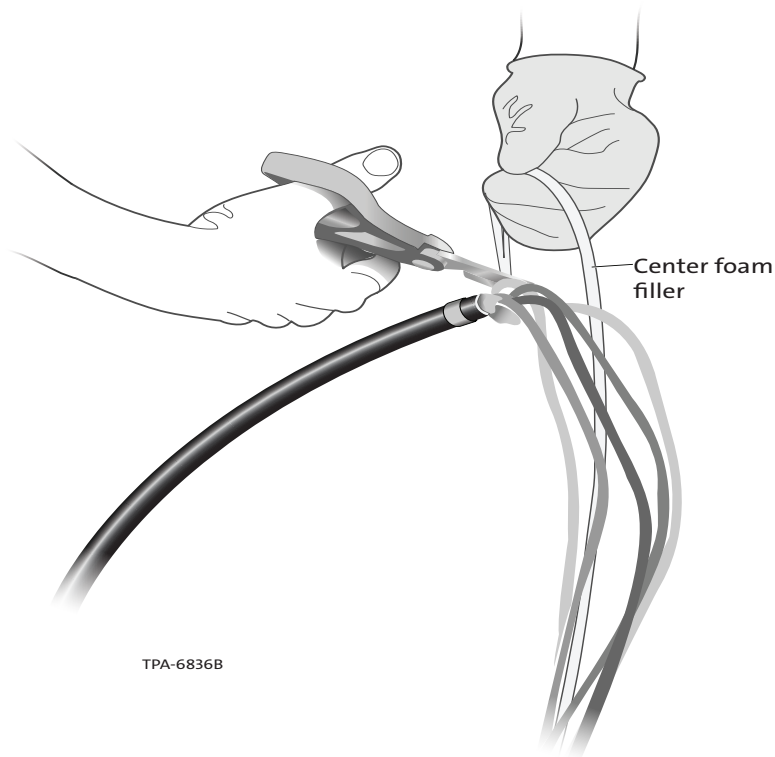

Figure 11
**Step 8:** Remove center foam filler. Cut off at the ring cut location (Figure 11).